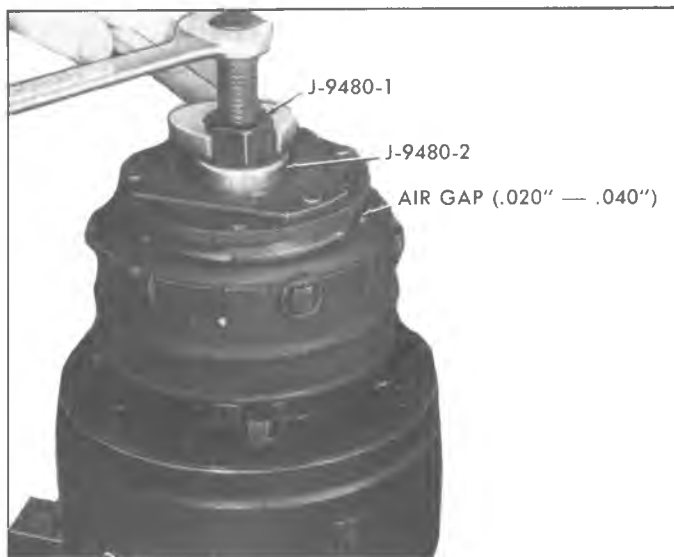

Fig. 6—Installing Clutch Plate and Hub Assembly
4. Place spacer bearing J-9480-2 on hub and insert end of clutch plate and hub assembly installer J-9480-1 through spacer J-9480-2 and thread tool onto end of compressor shaft (Fig. 6).
tighten center screw to press hub onto shaft until there is a .020 to .040 inch air gap between the frictional surfaces of clutch plate and clutch rotor (Fig. 6).